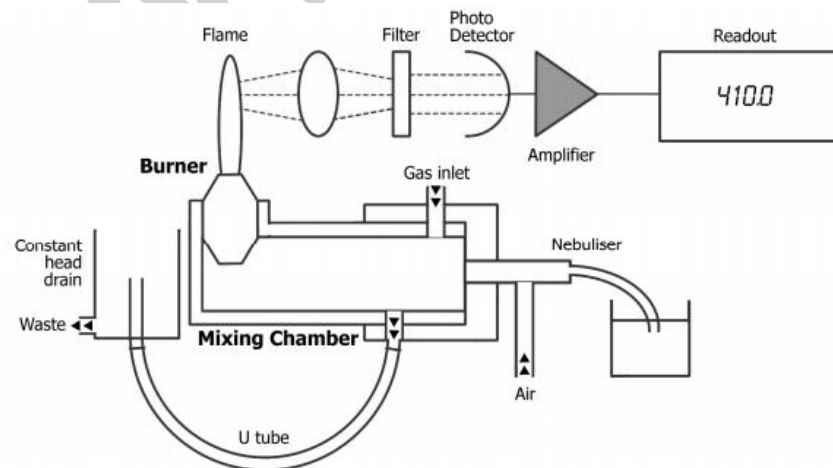

Fig. 4. Basic components
1. A flame that can be maintained in a constant form and at a constant temperature:- “The burner” (see Fig. 4)
transporting an homogeneous solution into the flame at a steady rate:- “Nebuliser and mixing chamber” (see Fig. 4)
“Simple colour filters” (interference type) (see Fig. 4)
14. A means of measuring the intensity of radiation emitted by the flame:- “Photo Detector” (see Fig. 4).